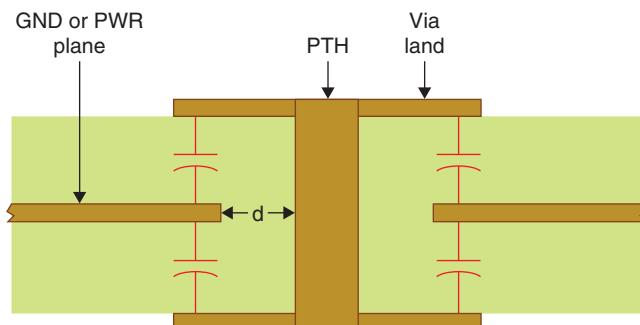

Figure 5-15 PTH or via with oversized lands overlapping plane.
If the land (pad) is designed per Eq. (5) above and the minimum clearance between the hole and the plane is used, the clearance diameter will typically be several mils larger than the lands. If the lands are larger than the clearance diameter, however, there will be an overlap of the lands and the plane layers as shown in Fig. 5-15, even if the clearance (dimension  $d$ ) meets IPC standards. This should be avoided as there will be capacitive coupling between the